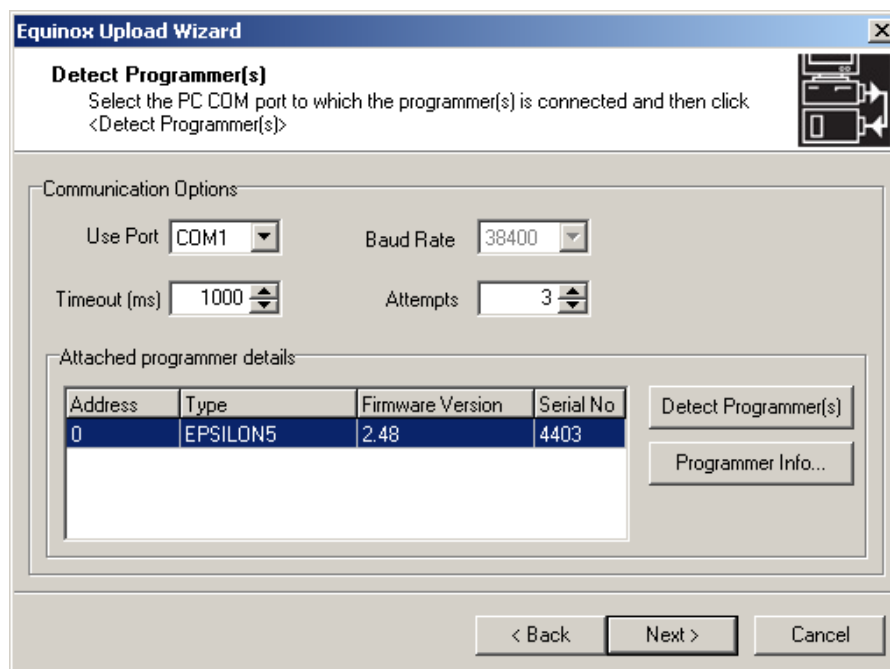

Figure 20 Programmer Upload Wizard – Select COM port
- Press *Next* and the window depicted in Figure 20 will open